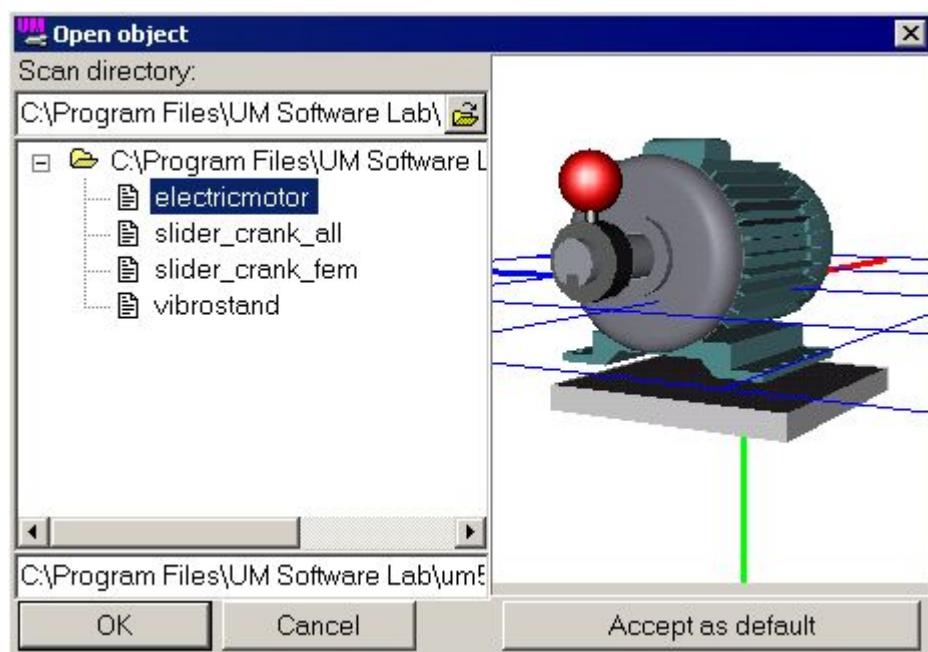

Figure 3.16
2. Select its type **Included** and open the `{um_root}\Samples\Flex\electricmotor` model (Fig. 3.16).